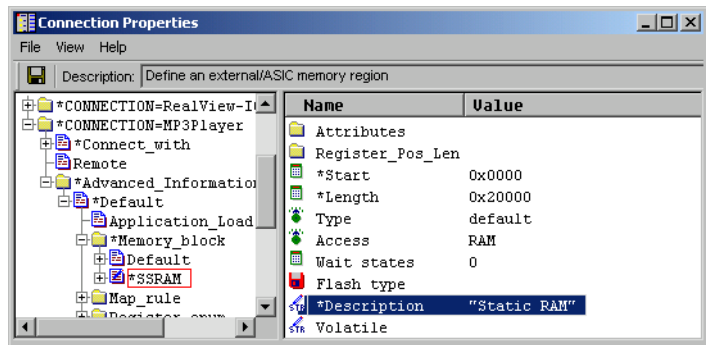

Figure 13-21 Viewing the contents of the new group
11. Set the value of Description to Static RAM as shown in Figure 13-21.